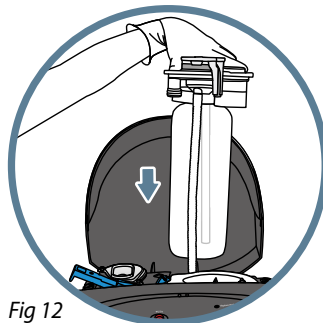

Fig 12
13. Insert the new SmartFlo™ cartridge and secure into place by pressing down (Fig 12).